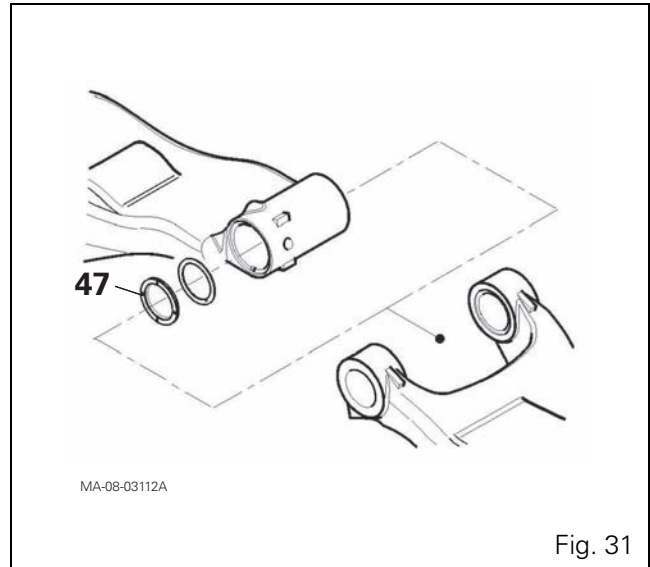
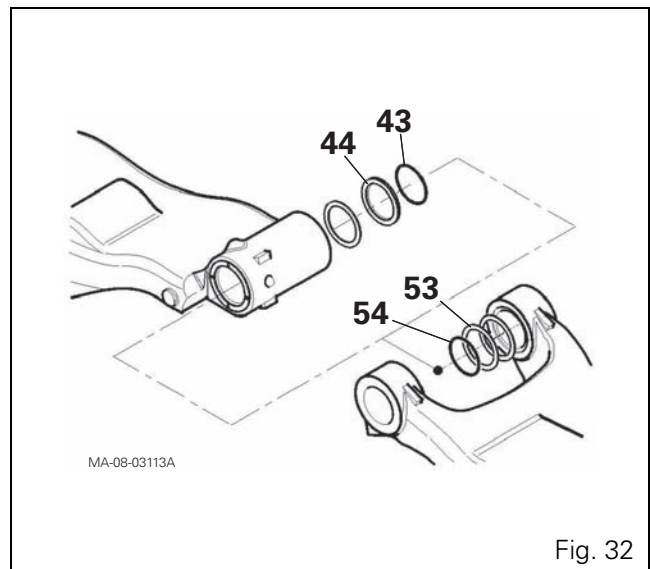

Fig. 31
Fig. 32
- 35.** Remove locating pin CA715382. Replace dummy thrust washer CA715381 with the shims P selected in step 31 and spacer (47) (Fig. 31). Insert spacer (47) with the aid of tool ref. CA715527.
**NOTE:** Position spacer (47) with the slots facing outwards.
Insert the shims U selected in step 33 and spacers (44) and (53) (Fig. 32). Insert spacers (44) and (53) with the aid of tool ref. CA715384.